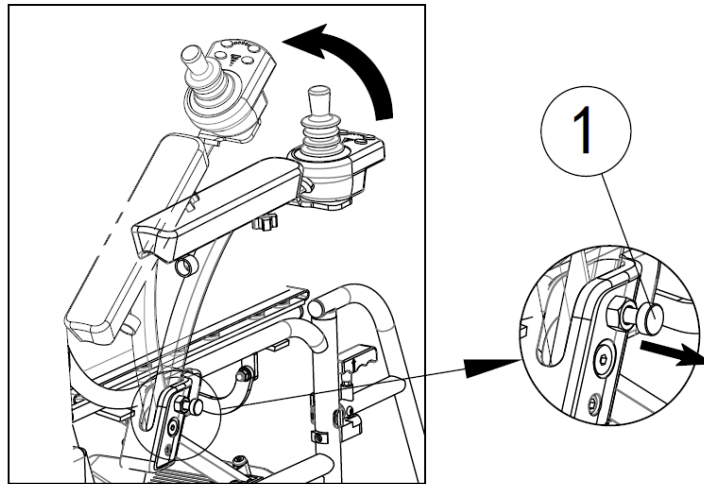

Figure 9.
3. Unhook the controller harness from the securement clips. Uninstall the securement clips and reinstall them on the other side. **See figure 9.**
4. Flip up the controller armrest. Unlatch the quick release handle and loosen the thumbscrew. **See figure 9.**